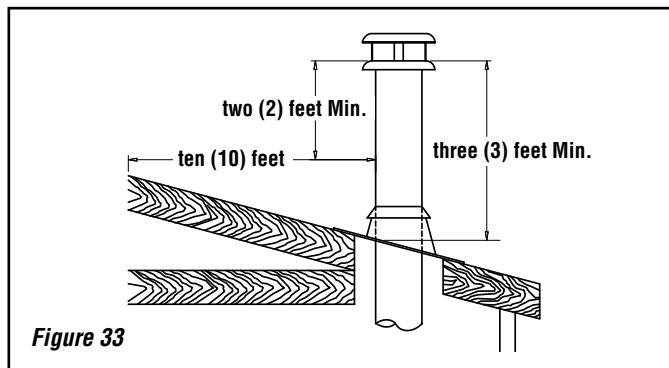

Figure 33
4. The minimum chimney height is twelve (12) feet (3.7 m) above the unit; the maximum is 30 ft (9 m). Add 3 ft (0.9m) for one set of offsets and 5ft (1.5m) for two sets. To compensate for altitude, add 18" (450 mm) to the chimney for every 2,000 feet (600 m) above sea level.
5. **All chimney installations must include at least one support.** Reducing the amount of chimney weight on the fireplace will help avoid the noise created when the fireplace expands. This can be achieved by having the chimney supported by the supports. The maximum chimney length that can be supported by the fireplace is nine (9) feet (2.75 m).
6. The chimney must extend at least three (3) feet (915 mm) above its point of contact with the roof and at least two (2) feet (610 mm) higher than any wall, roof or building within ten (10) feet (3m) of it (**Figure 33**).
7. If the chimney extends higher than five (5) feet (1,500 mm) above its point of contact with the roof, it must be secured using a roof brace.